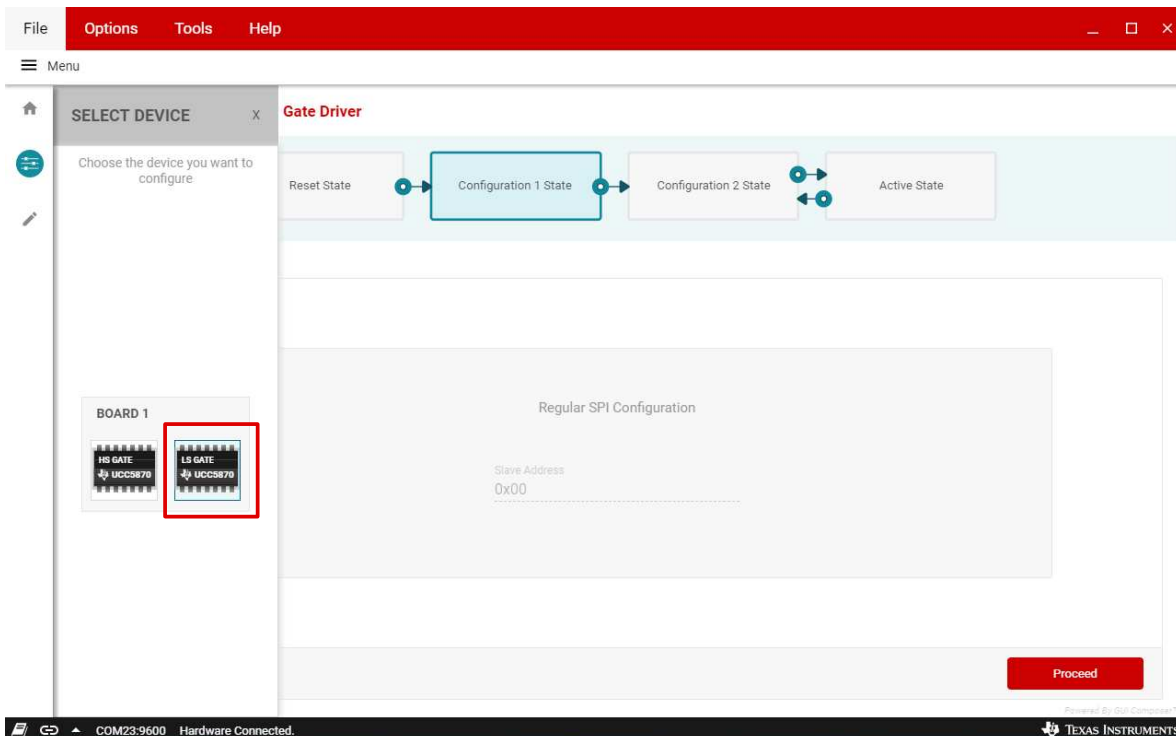

Figure 8. GUI High Side or Low Side Driver Selection
5. Select which driver (high side or low side) to program as in Figure 8